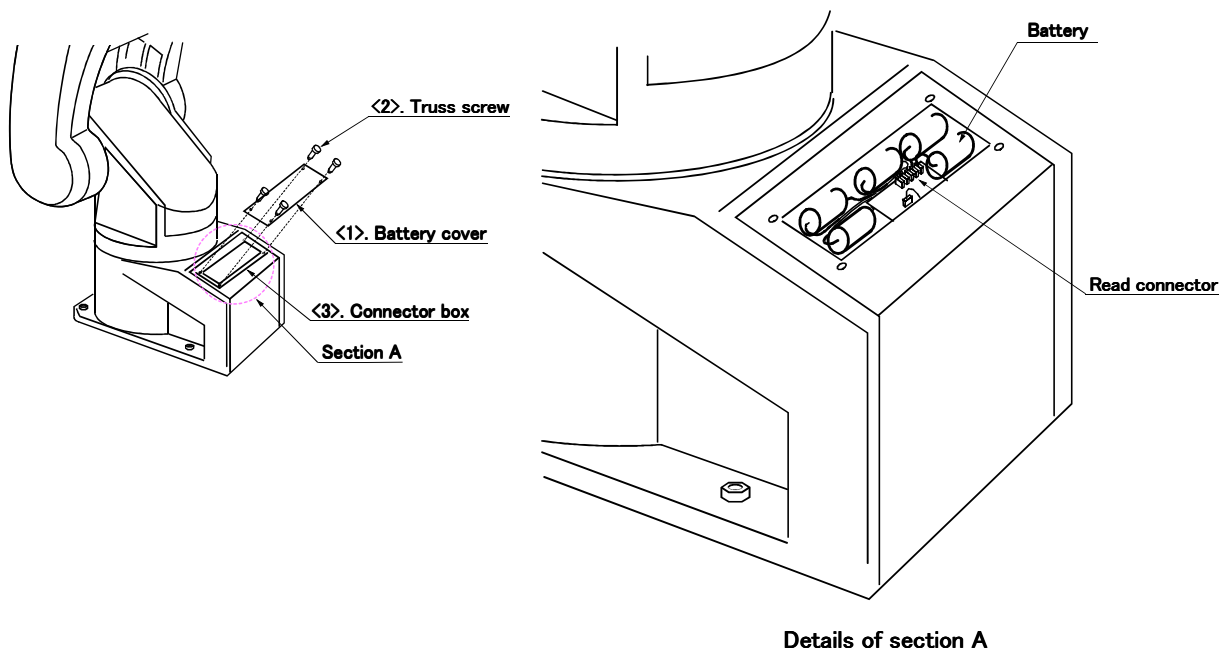

Fig.5-10 : Replacing the battery
- 4) Remove the installation screws <2> shown in Fig. 5-10, and remove the battery cover <1>.